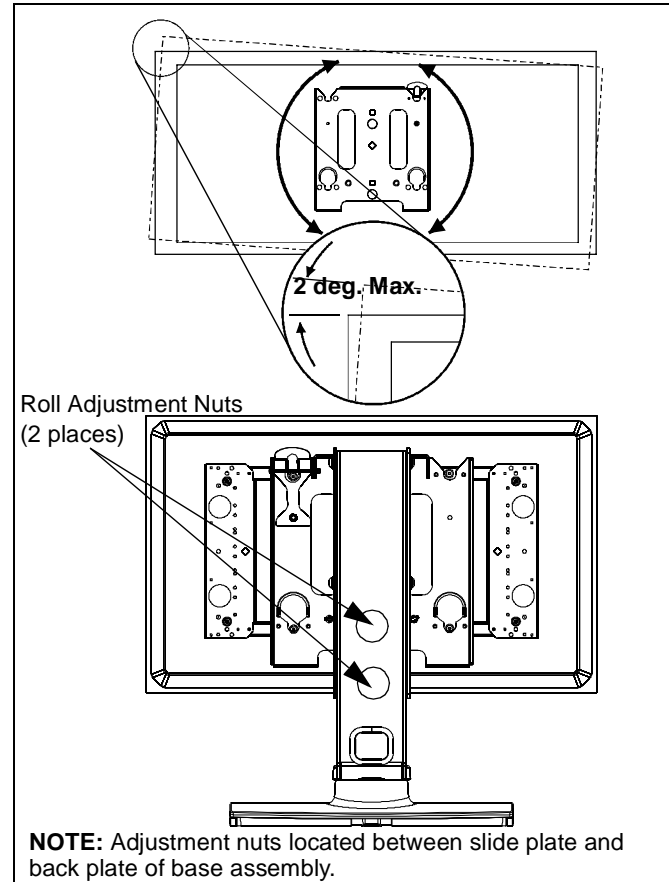

Figure 10
1. Loosen upper and lower roll adjustment nuts. (See Figure 10)
2. Level display. (See Figure 10)